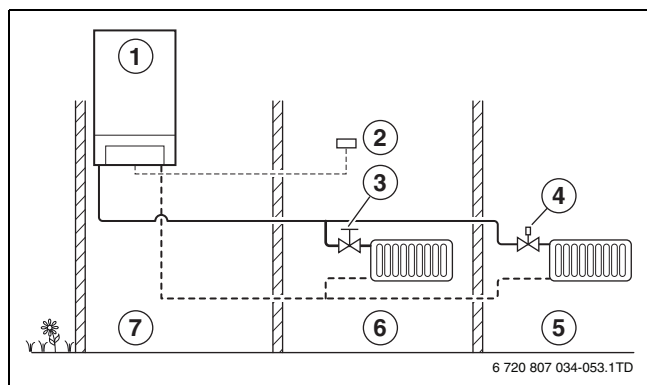

Fig. 47 Control principle of room temperature-dependent control
- In the case of room temperature-dependent control, the user interface in the reference room controls the temperature required within it (room temperature-dependent controller). In order to control the temperature correctly, radiators must be equipped with manual radiator valves or the thermostatically controlled radiator valves must be fully open (→ figure 47).